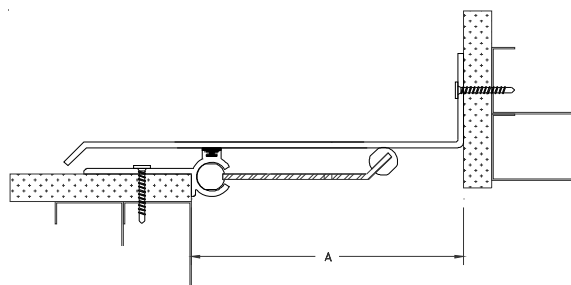

Figure 9
STEP 13. Place the cover plate into its installed position spanning the joint against the intersecting wall with its free end resting on the base member. Ensure that the cover plate is level, straight, and properly aligned. Ensure that the cover plate is properly aligned with the centering bars. Attach the cover plate to the intersecting wall using the fasteners provided by the factory (see Figure 9).